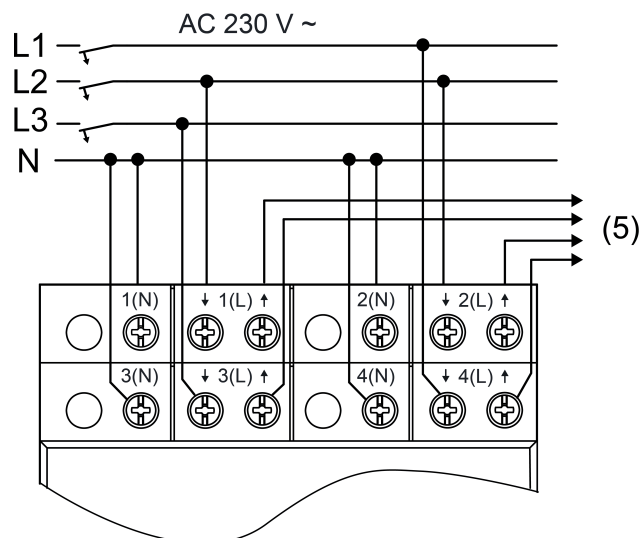

Figure 3: Connection example, energy sensor
(5) To the monitored consumers
- Connect the circuits to be monitored according to the energy sensor connection example (Figure 3). Connect the energy sensor behind the circuit breakers.